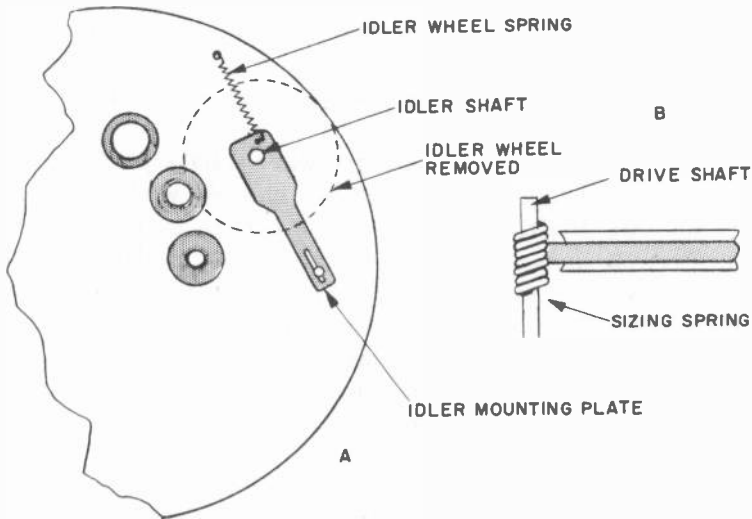

Fig. 317-a,-b. *Idler-wheel spring and motor-drive shaft spring. Springs that lose their tension should be replaced.*
4. The idler wheel spring is easily taken off after the idler wheel is removed. As part a of Fig. 317 shows, each end of the
Slowness is also caused if wrong-size parts are mistakenly put in the drive assembly. An important point to remember is that some manufacturers use a coil type spring attachment on the motor drive shaft to increase its effective diameter. This is shown in part b of Fig. 317. If this spring is missing, the drive shaft diameter will be too small and the turntable will rotate too slowly.
Another important factor that determines good drive coupling is the pressure of the idler wheel between the drive wheel and the turntable. The spring (part a of Fig. 317) holds the idler wheel firmly in position. If this spring loses its tension, the idler wheel will couple loosely and slip. When this happens, change the spring. Some service technicians cut this spring to make it shorter so that it will have more tension. When a spring starts losing its tension, however, it gets progressively worse. Making it shorter is only a temporary repair; change it.